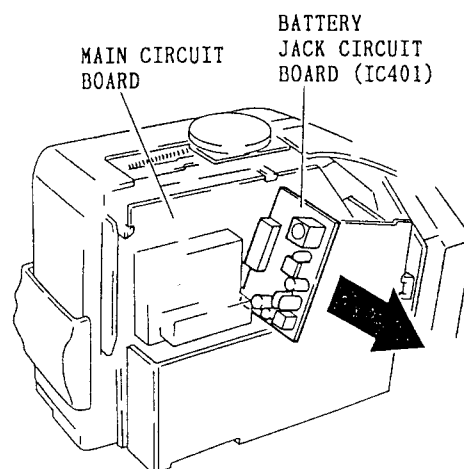

Fig. 2-16
1. Pull out the battery jack circuit board (IC401) in the direction of the arrow from the main circuit board. (See Fig. 2-16)
1. Remove the battery jack circuit board (IC401). (See Fig. 2-16)